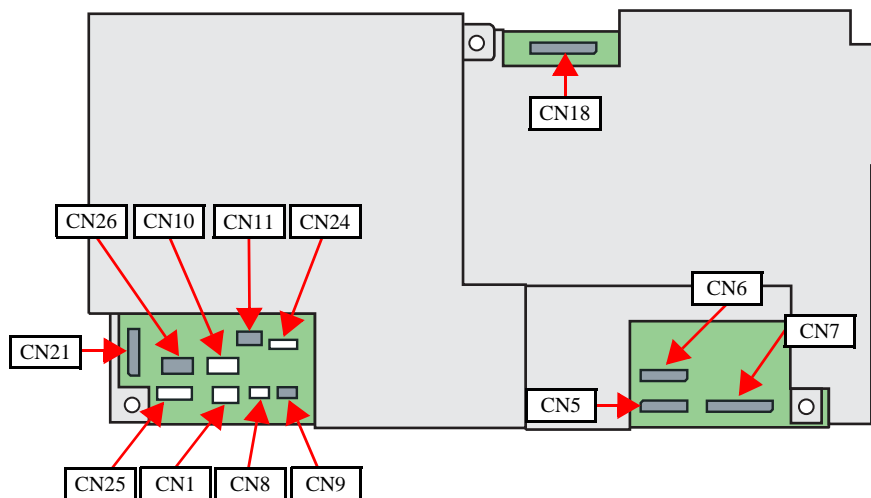

Figure 4-13. Connector Layout of the Main Board Unit
2. Connect the Head FFCs to connectors CN5, 6, 7 on the Main Board. (See Figure 4-13.)